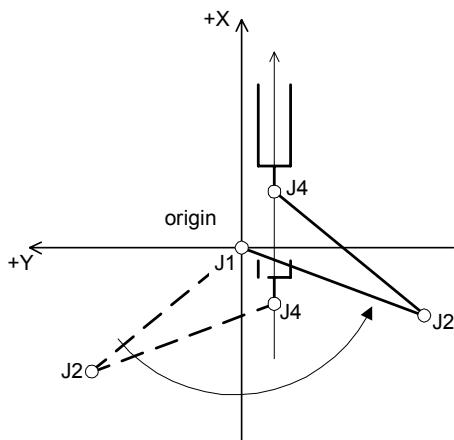
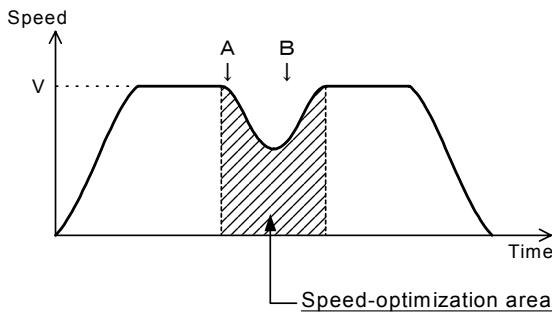

Fig.4-19:When passing through near the origin point by linear interpolation
Fig.4-20:The situation of the speed at speed-optimization.
(1) When performing a XYZ interpolation operation while maintaining the speed of the control point, the J1 axis must rotate at a faster speed when passing through a point near the origin point O (one of the robot's singular points) as shown in Fig. 4-19, causing an excessive speed error depending on the specified speed. If SPDOPT ON is executed, the speed is adjusted automatically in order to prevent an excessive speed error from occurring. For example, while in operation at the command speed V, it approaches the origin point O, and the speed will be exceeded if it continues to operate at the current speed, the speed is decreased automatically as shown by A in Fig. 4-20 in order to prevent the speed to be exceeded. Then, when it has passed near the origin point O and it becomes possible to increase the speed, it starts accelerating to reach command speed V as shown by B in Fig. 4-20.